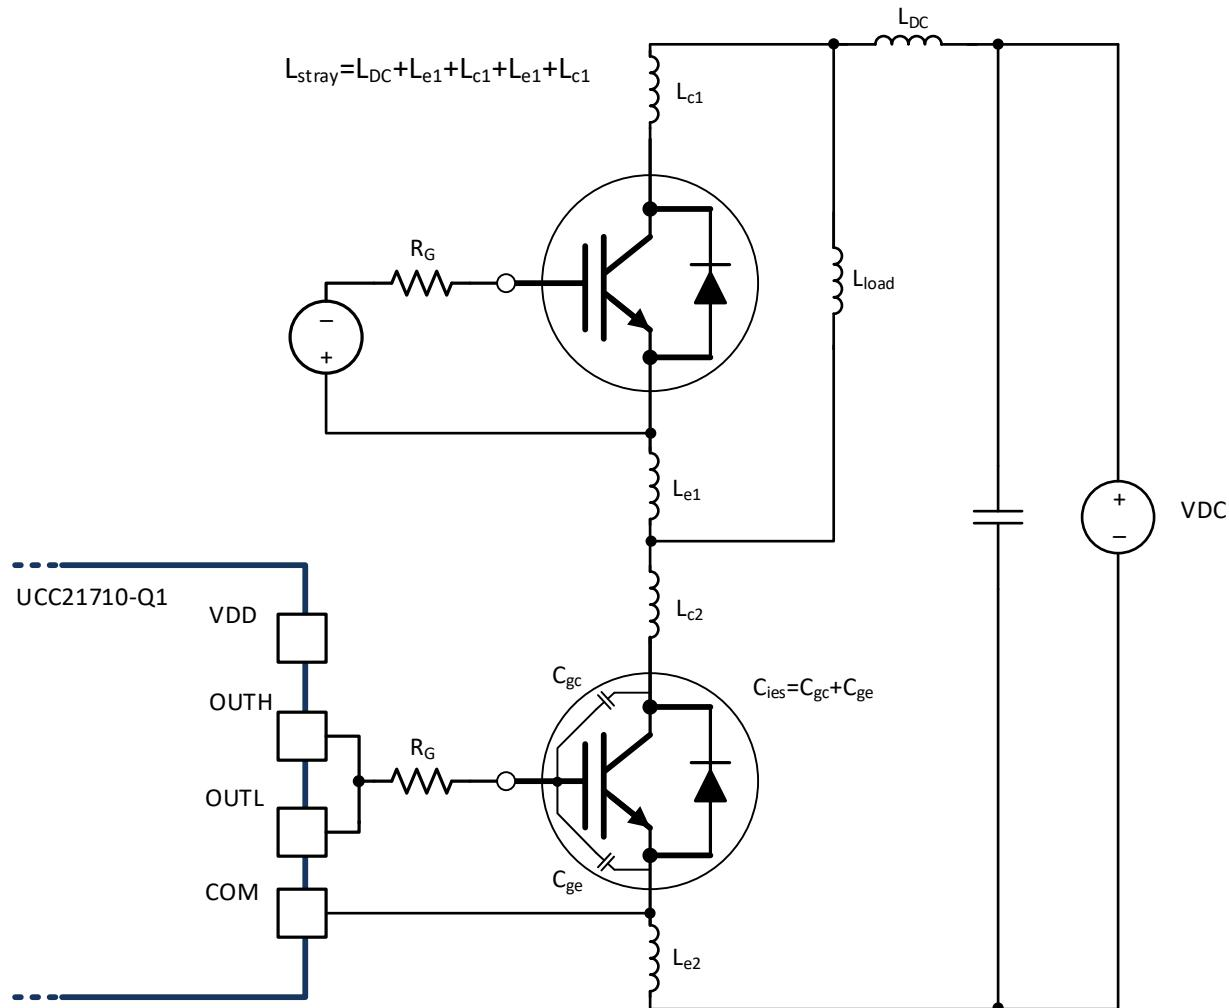

図 8-6. Stray Parasitic Inductance of IGBTs in a Half-Bridge Configuration
- $L_{\text{stray}}$  is the stray inductance in power switching loop, as shown in 図 8-6